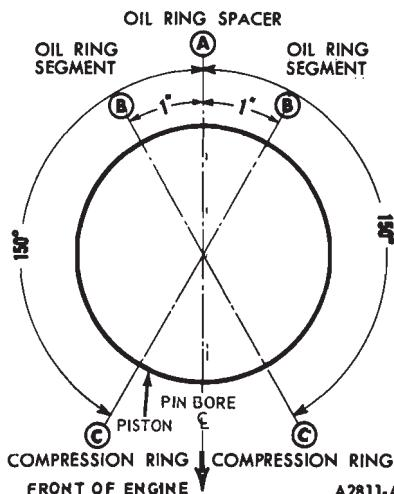
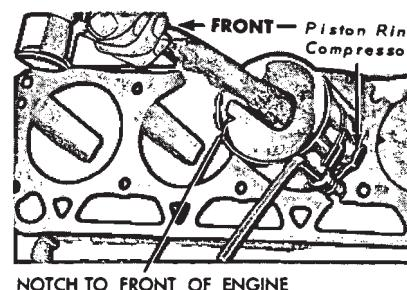

FIG. 30—Piston Ring Gap Spacing
FIG. 31—Piston Installation
4. Make sure the ring gaps are properly spaced around the circumference of the piston (Fig. 30). Install a piston ring compressor on the piston and push the piston in with a hammer handle until it is slightly below the top of the cylinder (Fig. 31). Be sure to guide the connecting rods to avoid damaging the crankshaft journals. Install the piston with the notch in the piston head toward the front of the engine.
3. Check the end gap and spacing (Fig. 30) of all piston rings. They must be within specifications.